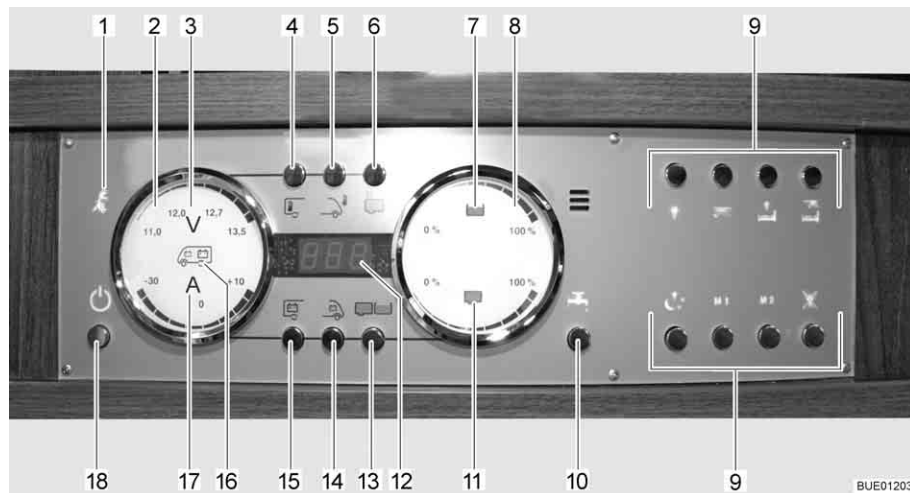

Fig. 137 Panel LT 510
The 230 V indicator lamp (Fig. 137,1) illuminates whenever line voltage is available at the transformer/rectifier input.
The 12 V main switch (Fig. 137,18) switches the panel and the 12 V power supply of the living area on and off.
- Briefly press the 12 V power supply button (Fig. 137,18). The 12 V living area power supply is switched on. The "12 V" indicator lights up.
- ▷ If, after switching on, the "11.0" LED of the volt indicator and the "V" volt symbol (Fig. 137,3) in the batteries gauge (Fig. 137,2) flash, the voltage of the living area battery is too low. Charge battery.
- ▷ If, after switching on, the "12 V" indicator and the "V" volt symbol (Fig. 137,3) flash three times, battery separation is activated. Deactivate battery separation.
- Briefly press the 12 V power supply button (Fig. 137,18). The 12 V living area power supply is switched off. The "12 V power supply" indicator goes out.
- Press button for living area battery (Fig. 137,15) and hold it down for approx. 10 seconds. The "V" volt symbol (Fig. 137,3) and the "12 V" indicator flash three times. The living area battery is disconnected from the 12 V power supply.
- Press the 12 V power supply button (Fig. 137,18) and hold it down for approx. 5 seconds. The "V" volt symbol (Fig. 137,3) and the "12 V" indicator flash three times. The living area battery is connected to the 12 V power supply. The indicator lights up after approx. 5 seconds.
- Press button for living area battery (Fig. 137,15). The "V" volt symbol (Fig. 137,3) lights up. Depending on whether the battery is being charged or discharged, the "A" ampere symbol (Fig. 137,17) lights up white or red respectively. The battery voltage and current of the living area battery are displayed using the LEDs in the gauge.
- Press button for starter battery (Fig. 137,14). The "V" volt symbol (Fig. 137,3) lights up. The battery voltage of the starter battery is displayed using the LEDs in the gauge.
- Press tanks button (Fig. 137,13). The water tank (Fig. 137,7) and waste water tank (Fig. 137,11) symbols light up. The fill levels of the water tank (upper scale) and of the waste water tank (lower scale) are indicated using the LEDs in the gauge.
Tank alarm The water tank symbol (Fig. 137,7) or waste water tank symbol (Fig. 137,11) flashes when the water tank is empty or the waste water tank is full.
The internal and external temperatures can be indicated using the digital display (Fig. 137,12).
- Press the button for the internal temperature (Fig. 137,4). The internal temperature is displayed.
- Press external temperature button (Fig. 137,5). The external temperature is displayed.